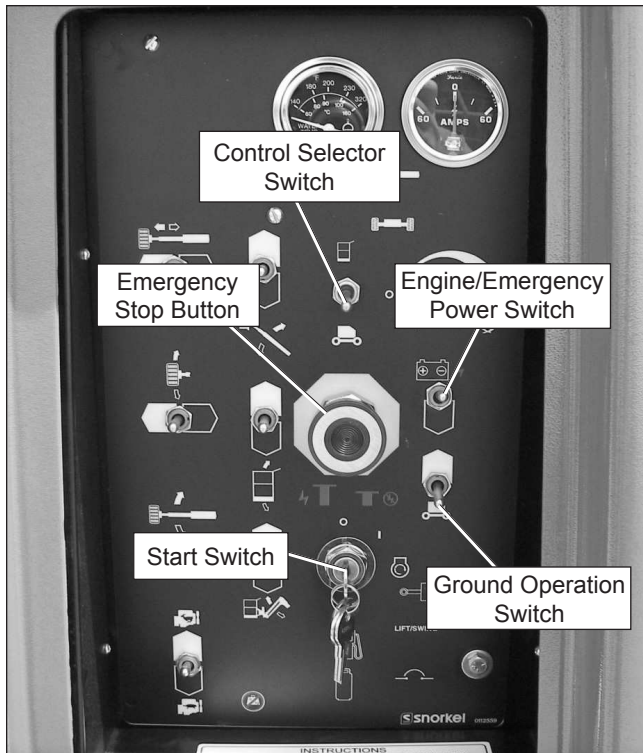

Figure 7.12 – Lower Controls
With no personnel in the platform, test the operation of each control from the lower controls (refer to Figure 7.12).
- Push the emergency stop button (refer to Figure 7.12) inward to turn off electrical power.
- Hold the engine/emergency power switch (refer to Figure 7.12) downward and the ground operation switch upward to operate the aerial platform from the lower controls using the emergency power system.